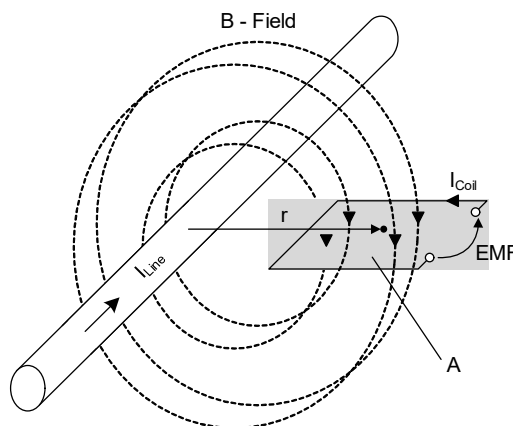

Figure 20. Line Current-to-EMF Conversion
The AC current of an adjacent power line creates a magnetic field that penetrates the on-chip coil. The coil generates a voltage (V_{COIL}) that is amplified by amplifier, A0. In Figure 20, assuming that the distance from the power line is r (m) and the current is I (A), the magnetic field H (A/m) generated by the current in the power line is as shown in Equation 1.